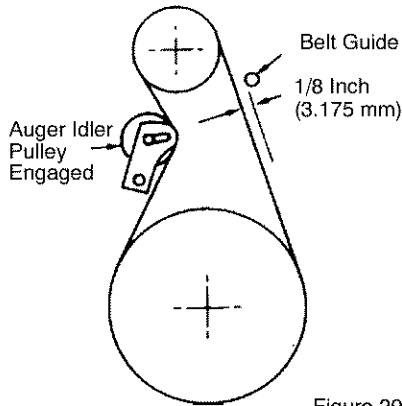

Figure 29
3. Measure the distance between the belt guide and belt. The distance should be 1/8 inch (3.175 mm) for guide. See Figure 29.